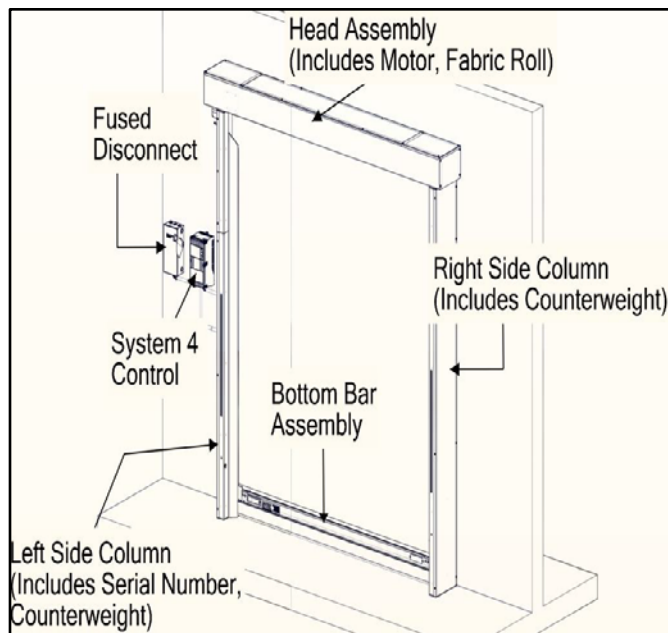

Figure 2
1. Install fused disconnect and Rytec control panel. (See Figure 2 for typical installation.)
Figure 2 shows the location of the major components of the door and the general placement of the associated sub-assemblies for a typical installation.